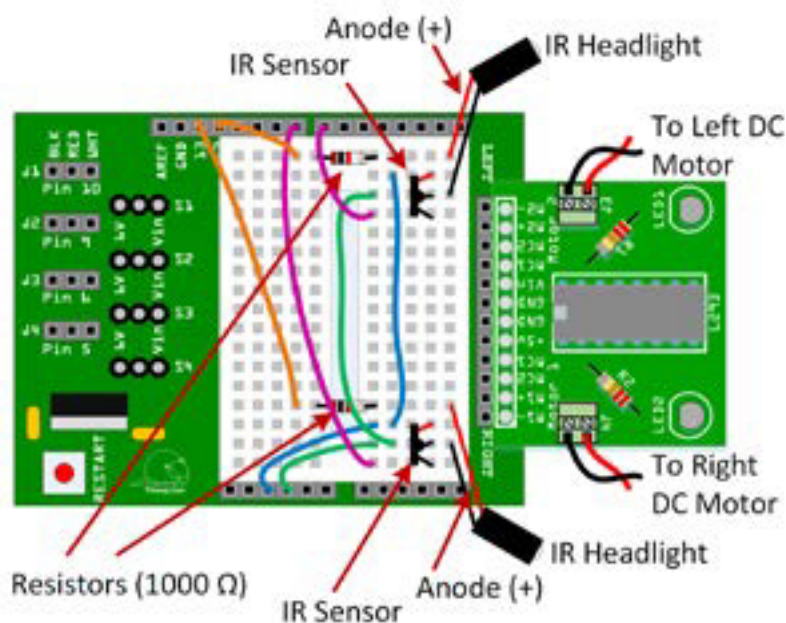

Figure 15-10. Infrared headlight and sensor circuit pictorial
10. Use the bread-board of the motor controller shield to wire the infrared headlight and sensor circuit shown in Figure 15-10.